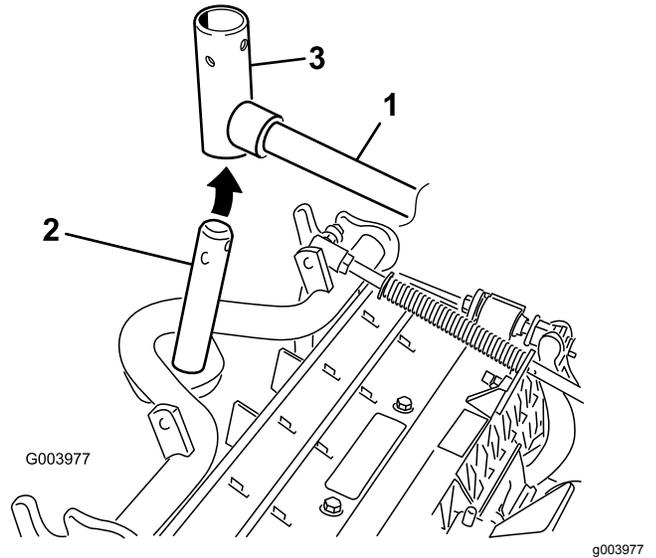

Figure 10
8. For the front cutting units, slide a cutting unit under the lift arm while inserting the carrier-frame shaft up into the lift-arm-pivot yoke (**Figure 10**).
- B. Insert the lift-arm yoke onto the carrier-frame shaft (Figure 10).